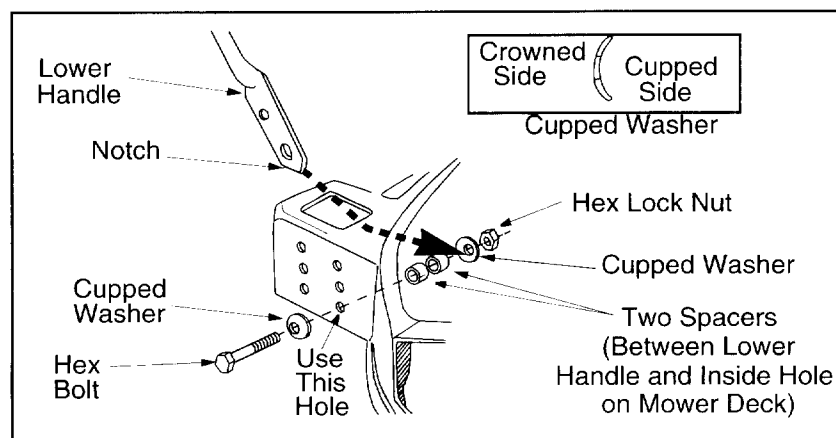

Figure 4
- Place **two** spacers between the bottom hole in lower handle and **bottom inside hole** of the deck. See Figure 4. Use a screwdriver to pry the handle away from the deck if necessary.